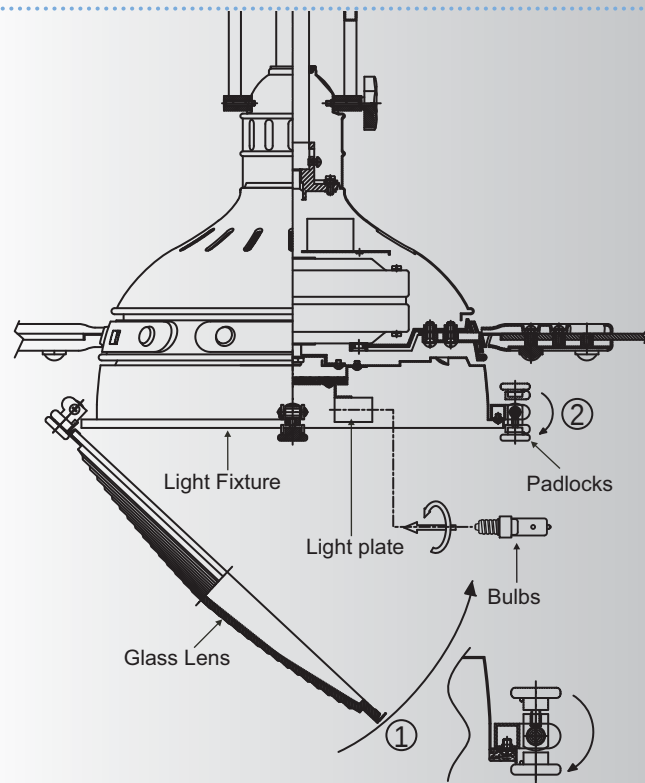

Fig. 19
Step 1. Install 4, 40W T3 halogen bulbs (provided). (Fig. 19)